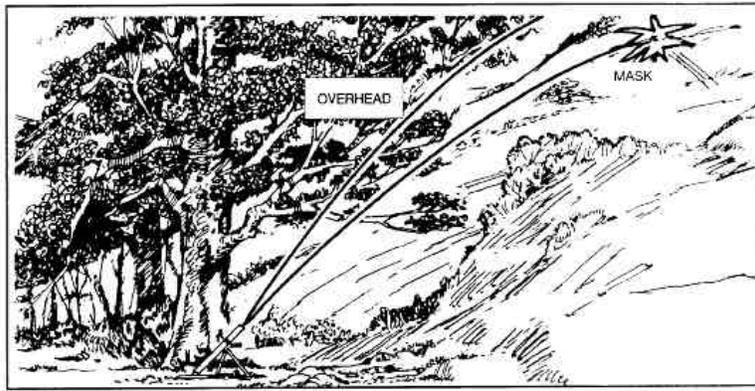

Figure 6-4. Overhead and mask clearance.
f. **Overhead and Mask Clearance.** (Figure 6-4.) Concealing and positioning the mortars should not interfere with their operation.